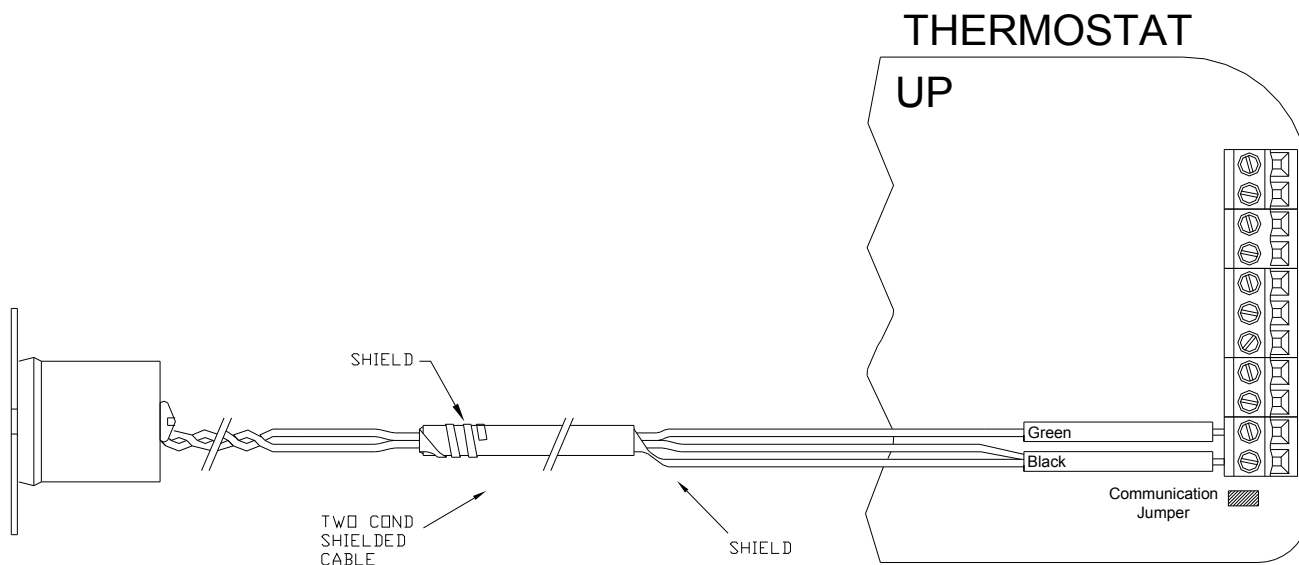

Figure 14 – *Connections to a Remote Temperature Sensor*
Make the connections to the Green and Black terminals under the section marked “Remote Temp Sensor” on the right terminal strip - See *Figure 14*.
1. When connecting a remote temperature sensor, the shield and one of the wires from the remote temperature sensor are tied together and get connected to the Black terminal – See *Figure 14*.